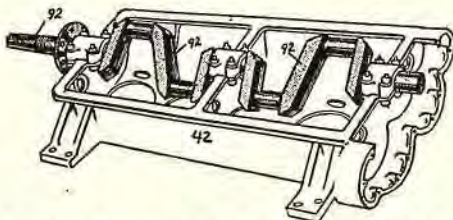

Fig. 2. Crank shaft. Upper half of crank case upside down.
The crank shaft (92) (Fig. 2) will now be fitted in the bearings. The bearing caps are placed over the